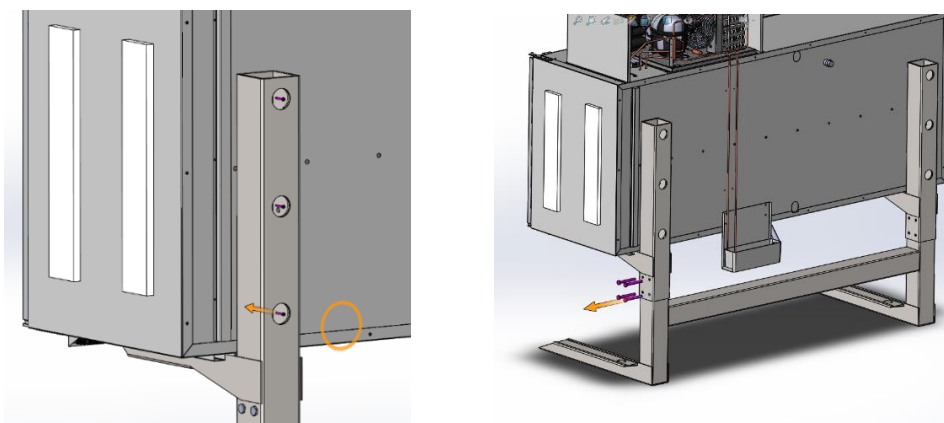

Figure 6.1.4. a) fixation of the stand with the body; b) fixation of the stand in the lower position.
1. Unscrew the M6 screws that connect the stand to the back wall of the showcase (Fig. 6.1.4, a)
2. Unscrew the M12 bolts that fix the stand in the lower position. Before twisting, support the showcase from below (Fig. 6.1.4, b).